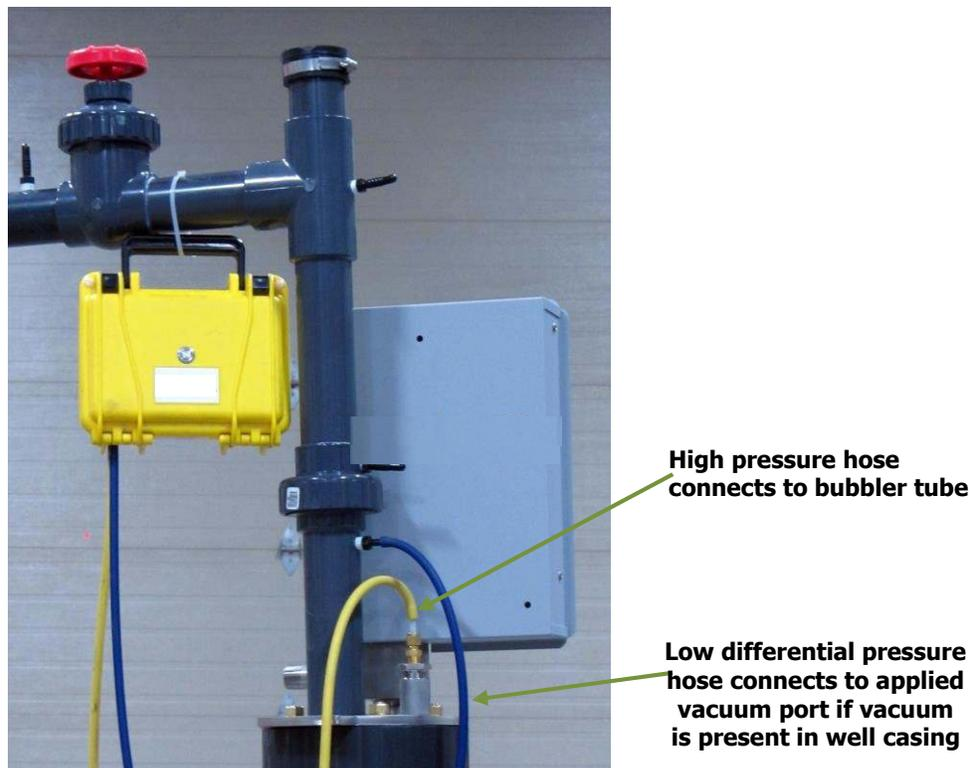

Figure 4 – RMS hose connections to bubbler, gas well head
5. Move to the well to be measured, and connect the high pressure hose of the RMS to the bubbler tube. If the well is under vacuum, connect the low pressure hose to the applied vacuum port. These connections are shown in figure 4 below.